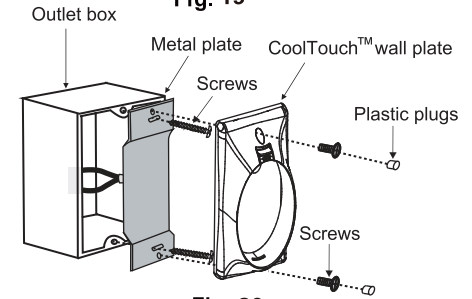

Fig. 20
Step 2. Install the metal plate and CoolTouch™ wall plate to the existing wall outlet box with 4 screws provided. Then place the two plastic plugs into the wall plate. (Fig. 20)